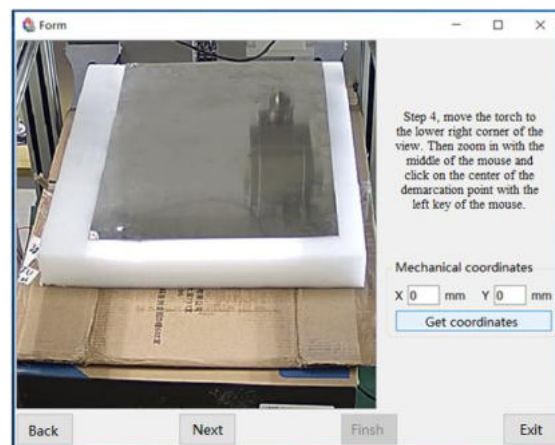

Figure 13.5 Get the third coordinate point
- After the second point is calibration, click "Next" to complete the third calibration point, operate the machine tool to move the gun to the lower right corner of the view, click the middle mouse button to enlarge the figure, click the center of the calibration point with the left mouse button, click the "Get coordinates" button in the interface to obtain the mechanical coordinates X, Y, as shown in Figure 13.5: